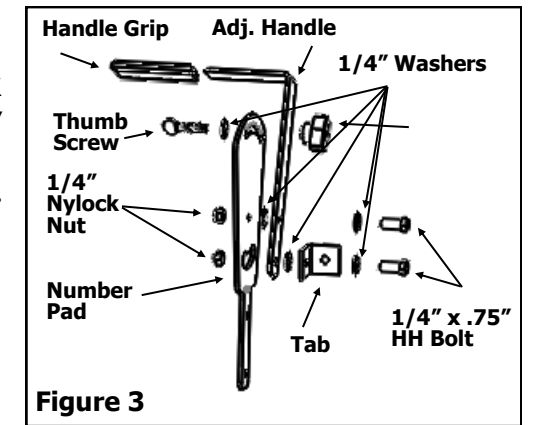

Figure 3
3. Attach the Tab to the bottom of the Adj. Handle using a 1/4" x .75" Hex Head Bolt, two 1/4" Washers and a 1/4" Nylock Nut. Attach the Adj Handle to the Number Pad using a 1/4" x .75" Hex Head Bolt, two 1/4" Washers and 1/4" Nylock Nut. Insert Thumb Screw and 1/4" Washer into slide on Number Pad and secure with Wing Nut. See Figure 3.